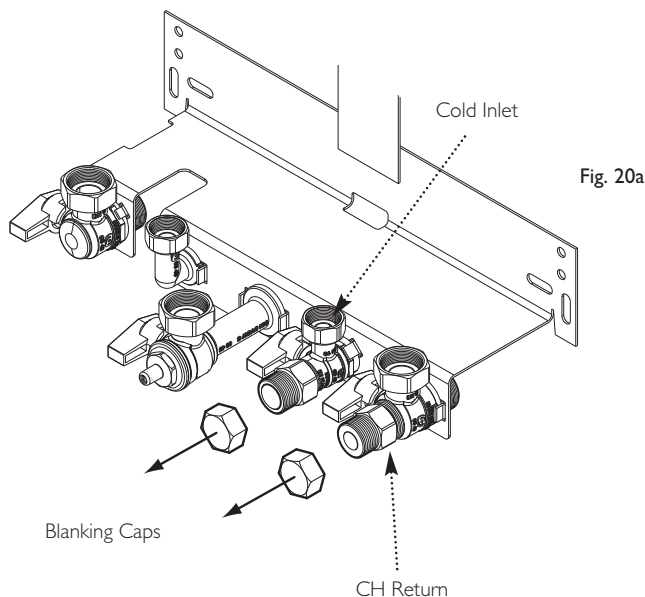

Fig. 20a
5. Remove the blanking caps from the mains cold water inlet and central heating return isolation taps (Fig. 20a). Connect the valves to the taps, ensuring that the fibre washers supplied are used on these joints.